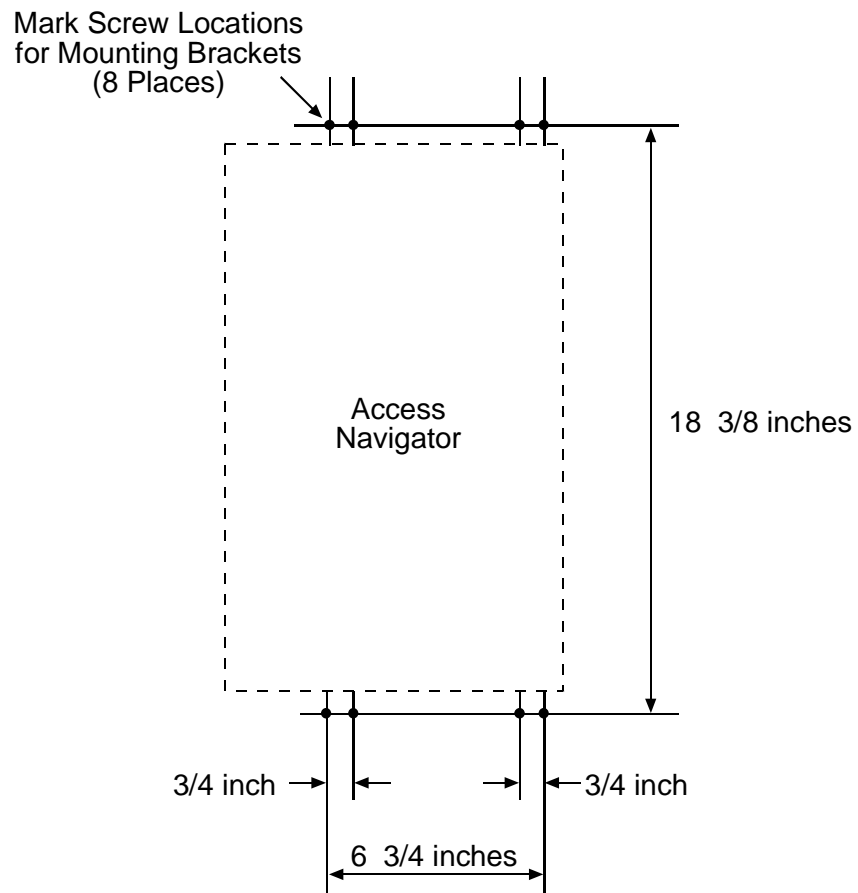

Figure 5-12. Mounting Hole Pattern on Plywood
2. Mark mounting hole locations on plywood to ensure that brackets will mount squarely against plywood (see Figure 5-12 on page 5-20).
1. Position Access Navigator with brackets attached over screw hole locations marked in plywood (see Figure 5-12 on page 5-20).